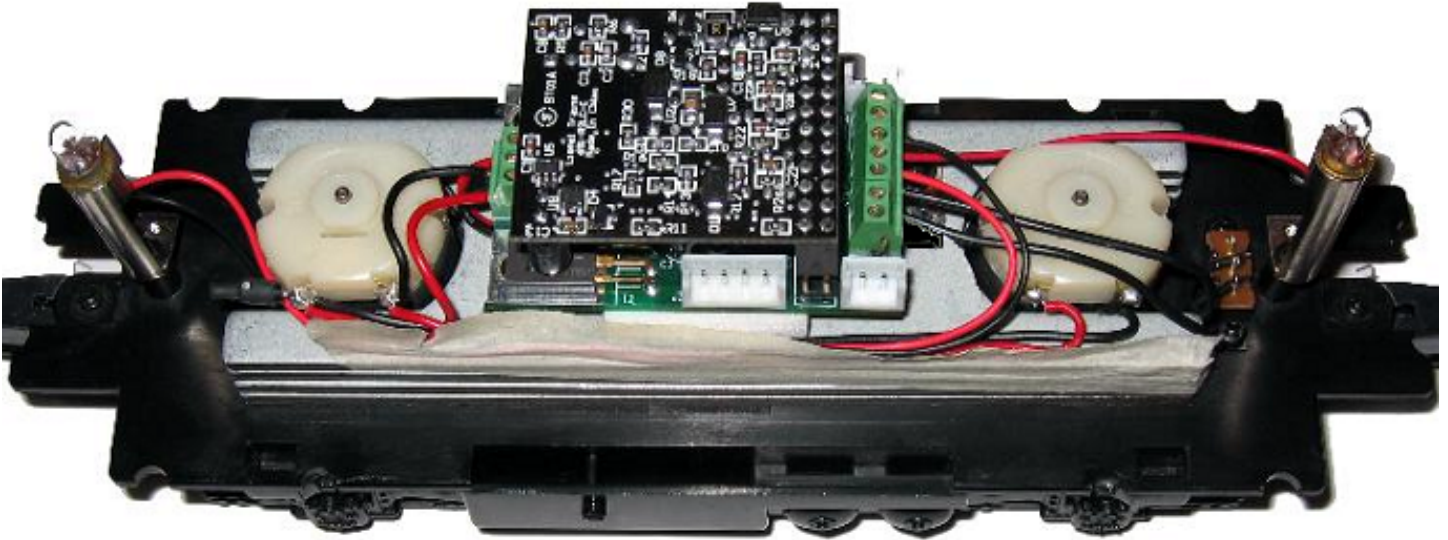

Figure 6
5. Double check all wiring, then install the R2LC receiver board onto the Beep Commander board as shown in figure 6 below. Use caution not to miss by one pin pair to either side, as this will certainly damage the components on both cards!